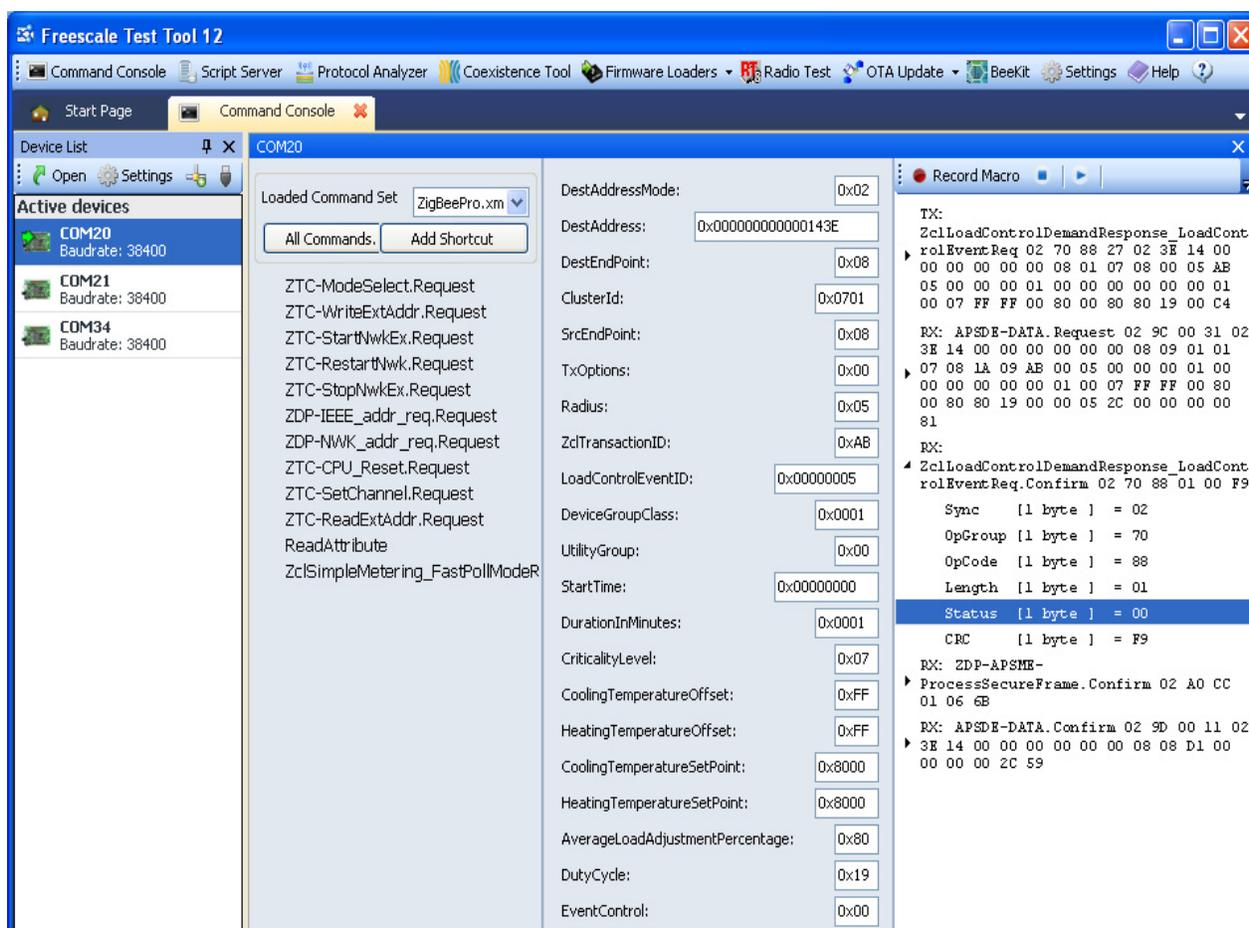

Figure 6-14. Load Control Event Request
- From Test Tool, send a “Load Control Event request” with the field values as shown in Figure 6-14. This command specifies a voluntary load control event (critical level is 0x04) that starts immediately, has a duration of one minute and a duty cycle of 50% (0x32). The request is sent over the air from the ESI to the “Se LoadControlDevice” node (short address is 0x0001), to set the duty cycle to 50%.